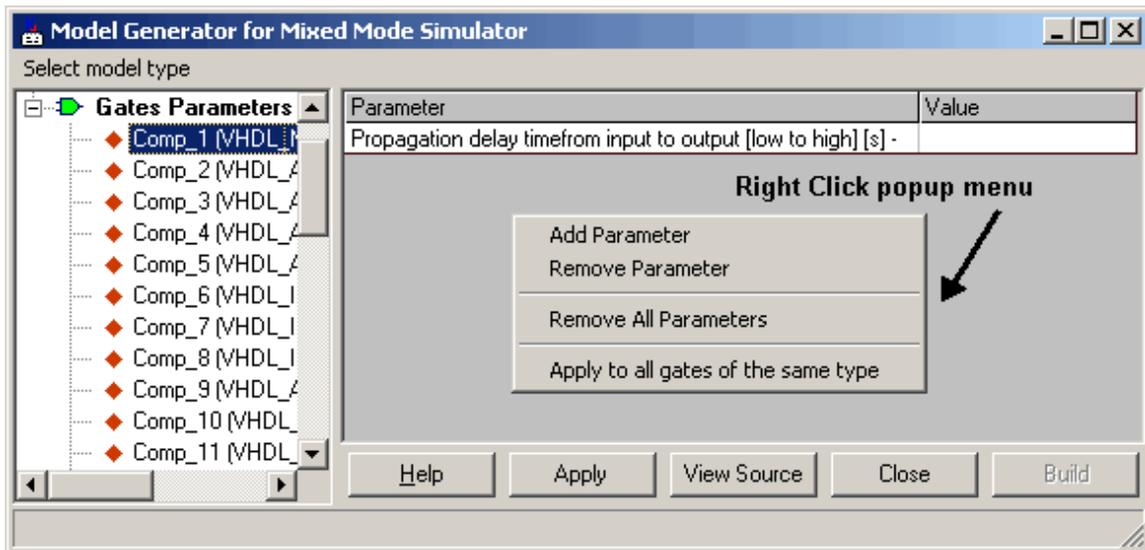

Fig: 2.38 Set Gate Parameters
The window is as shown in Fig.2.38.
**Operation:** Select Analog model type from Select Model Type. Model Project window for Analog model appears as shown in Fig: 2.38.